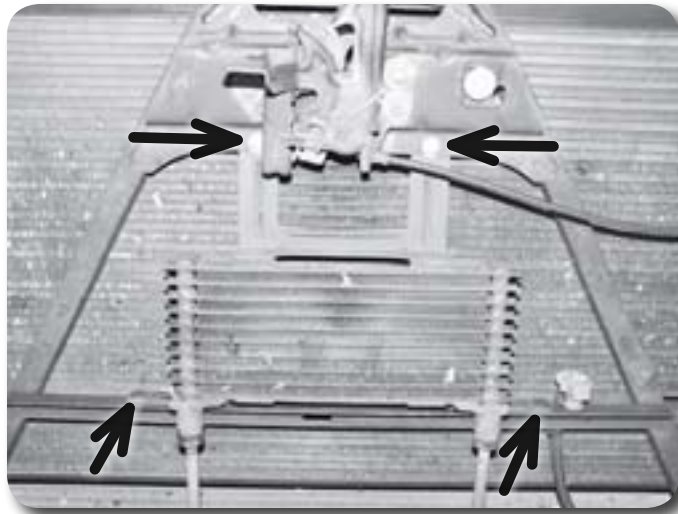

Figure 3
4. Remove the two bolts and two plastic clips mounting the transmission cooler to the core support **Figure 3**. Pull the cooler forward, free from the core support mount. Save bolts.